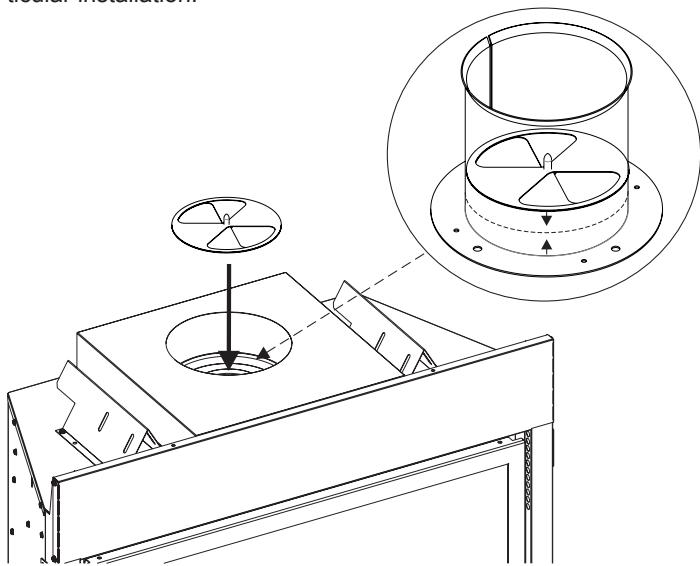

Figure 28
**Figures 28 and 29** shows the location and recommended openings for the flue restrictor. Adjustments may be made for each particular installation.